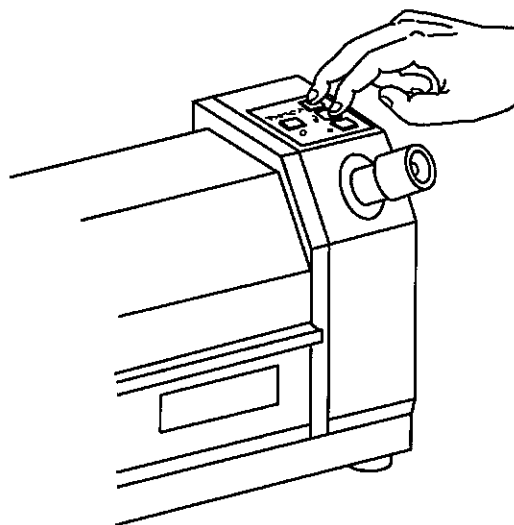

Figure 5-1
- ① Press down the power switch on the rear panel to the "I" side to turn the POLAX-2L on.
- ② Put an observation tube which is filled up with distilled water (or general tap water) on the center part of the sample stage. At that time, make sure that the ZERO SET READY lamp is on. If the ZERO SET READY lamp is off, the zero point comes off the correct point by 6° or more in angle of rotation. In such a case, press both the SHIFT/TEMP switch and the right-handed or left-handed ROTATE switch simultaneously and continue pressing the two switches until the ZERO SET READY lamp goes on (Figure 5-1).